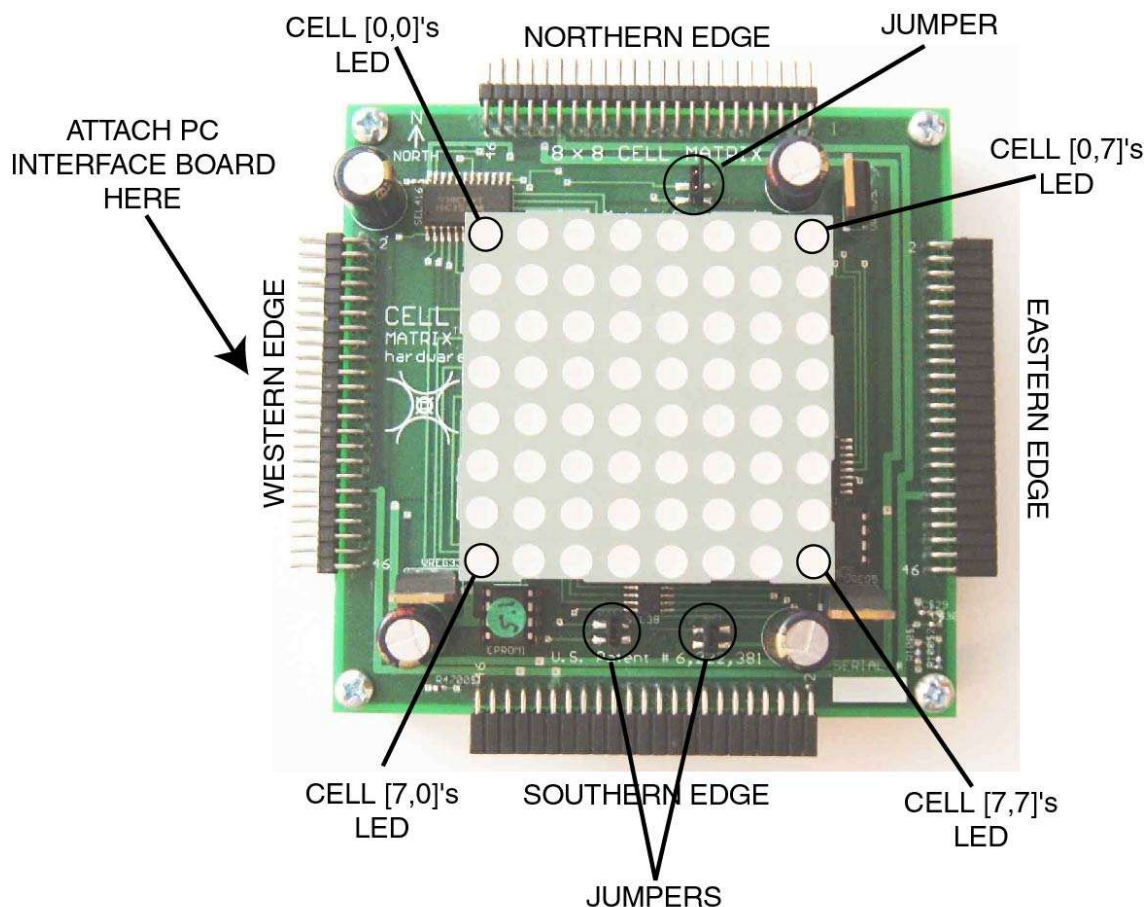

FIGURE 6 - CELL MATRIX MOD 88
There are three jumpers on the *Cell Matrix Mod 88*: all three jumpers must be in place (so each pair of pins is shorted by the jumper) in order for the board to work properly. If any jumpers are missing, unpredictable results may occur. See Figure 6 for the location of these three jumpers.
- Identify the Western edge of the *Cell Matrix Mod 88*, as shown in Figure 6;